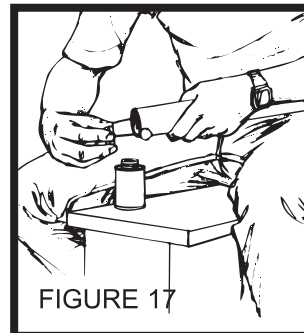

FIGURE 17
11. Refer to Figure 17. Apply PVC cement (Model 379) to outside of tubing. Coat tubing approximately 1" back. Take care to keep cement from inside of tube.